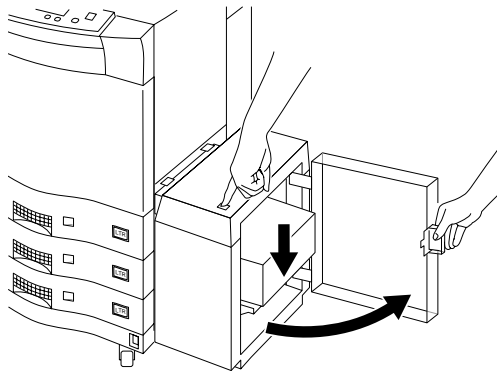

Figure 4-11 HCI Paper Tray
2. Press the button on the top of the HCI to lower the paper tray, as shown in Figure 4-11.